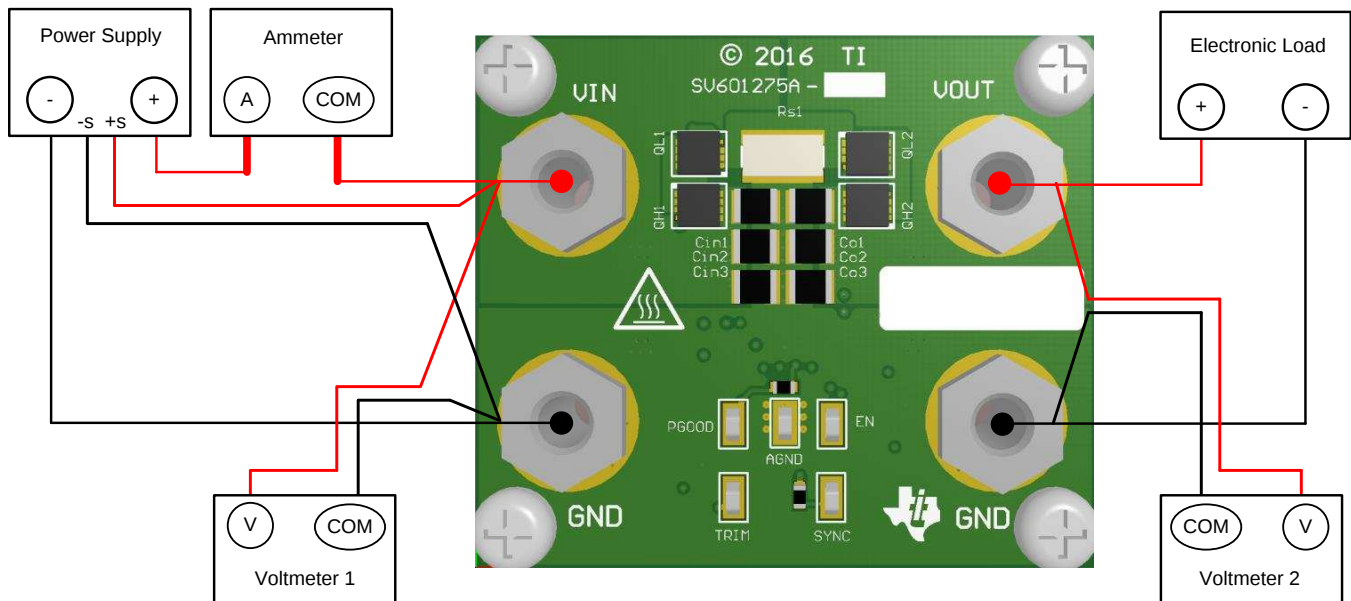

Figure 3. Test Setup Connection Diagram
Figure 3 shows the recommended test setup to evaluate the LM5175RHFEVM-HD. Working at an ESD workstation, make sure that any wrist straps, boot straps or mats are connected referencing the user to earth ground before power is applied to the EVM.
- Prior to connecting the DC input source, it is advisable to limit the source current to 10 A maximum. Make sure the input source is initially set to 0 V and connected to VIN and GND banana connections as shown in Figure 3. While the on-board hybrid electrolytic capacitor provides input circuit damping, an additional high-ESR input capacitor may be required if long input lines are used.